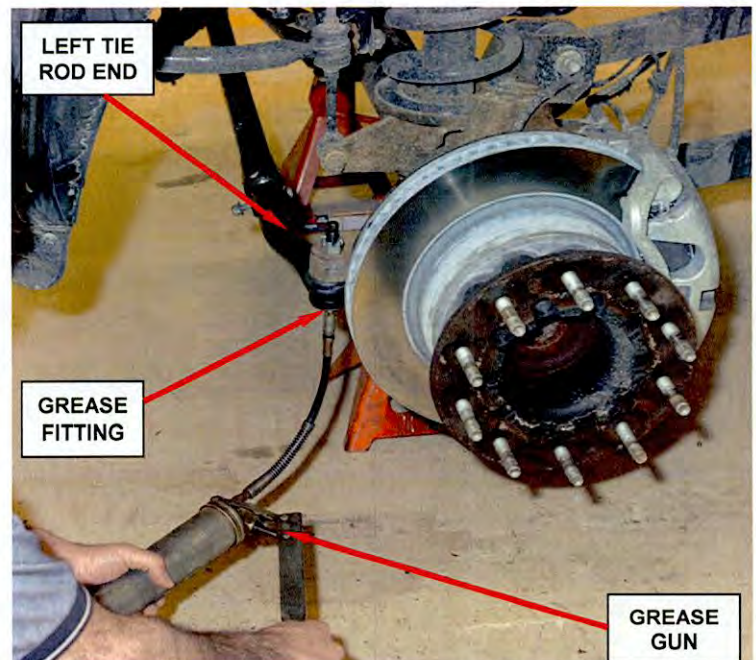

Figure 5 – Grease Both Outer Tie Rod Ends (Left Side Shown)
16. Using a grease gun, grease the right and left tie rod ends through the grease fittings on the tie rod end (Figure 5).